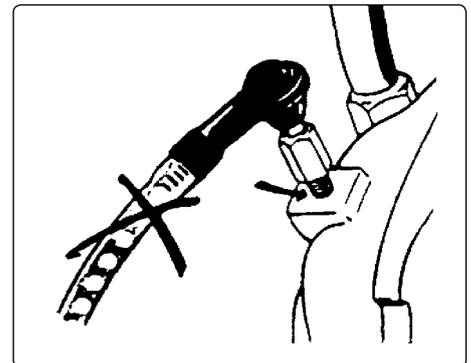

fig.3
- 5.1.10. Continue to bleed the system until there are no air bubbles visible in the clear tube (fig.3).